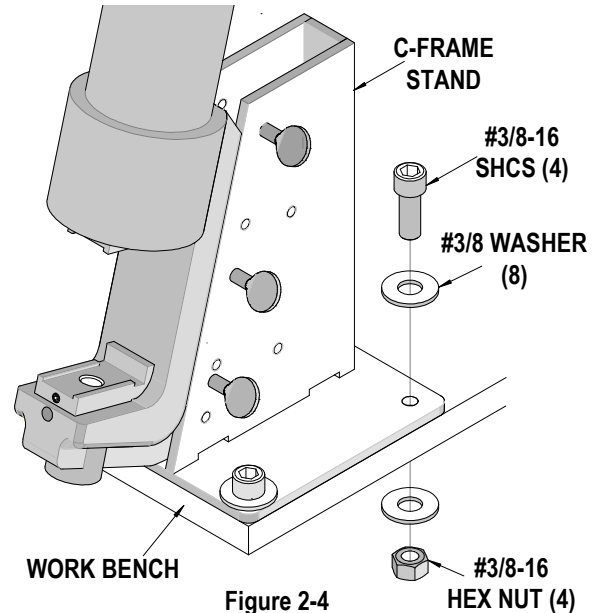

Figure 2-4
- When using the optional C-Frame stand, be sure the C-Frame stand assembly is securely fastened to a clean, sturdy workbench or table in a well-lighted area. Fasten the stand with four #3/8-16 SHCSs, nuts, and washers of sufficient length for the tabletop. (Not supplied). See Figure 2-4. (Some stands may have two mounting holes instead of four.)